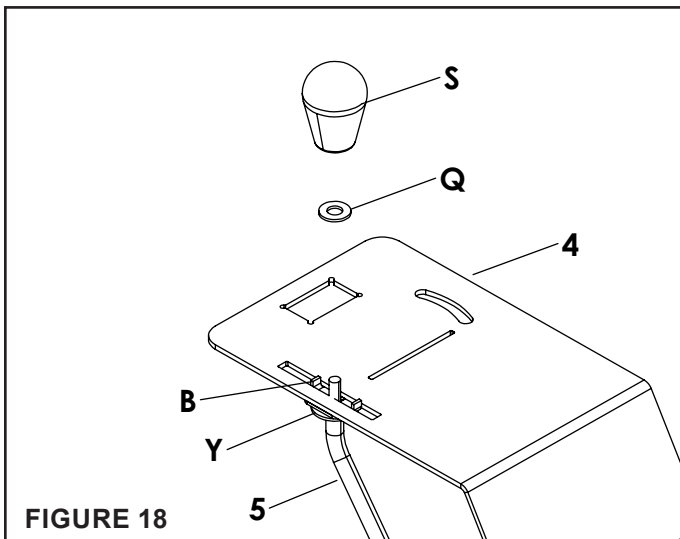

FIGURE 18
STEP 18: (SEE FIGURE 18)
- Install a flow control rod (5) through washer (Y), adjustable stop (B) and control bracket assembly (4).
- Install a washer (Q) onto the threaded end of the flow control rod (5).
- Install a knob (S) onto the threaded end of the flow control rod (5).